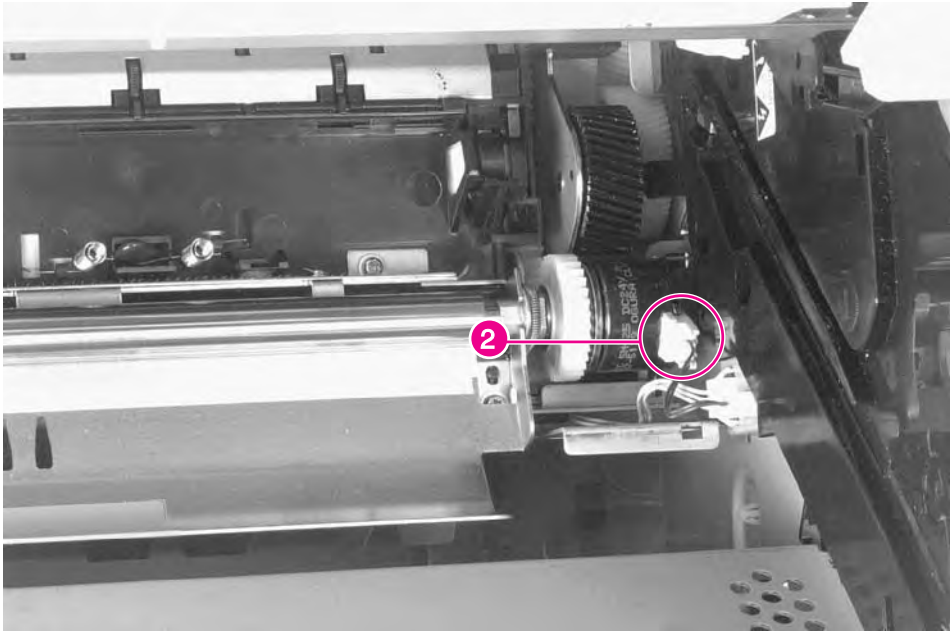

Figure 6-52 Registration Assembly (2 of 3)
- 5 Unplug the clutch cable from the clutch on the right end of the Registration Assembly (figure 6-52, callout 2).
- Registration Assembly (see figure 6-52 on page 218)